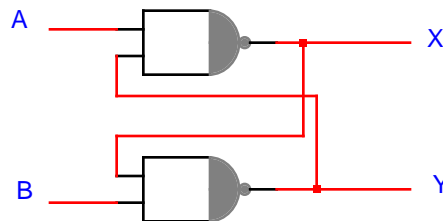

Figure 1
- a) For the circuit of Figure 1, set up a transition table summarizing the operation of the circuit. (Refer to the text for a format of a transition table description of latch behavior.) In addition, develop the present state/next state table assuming equal delays. (This is a state description of the ideal behavior of the configuration.)